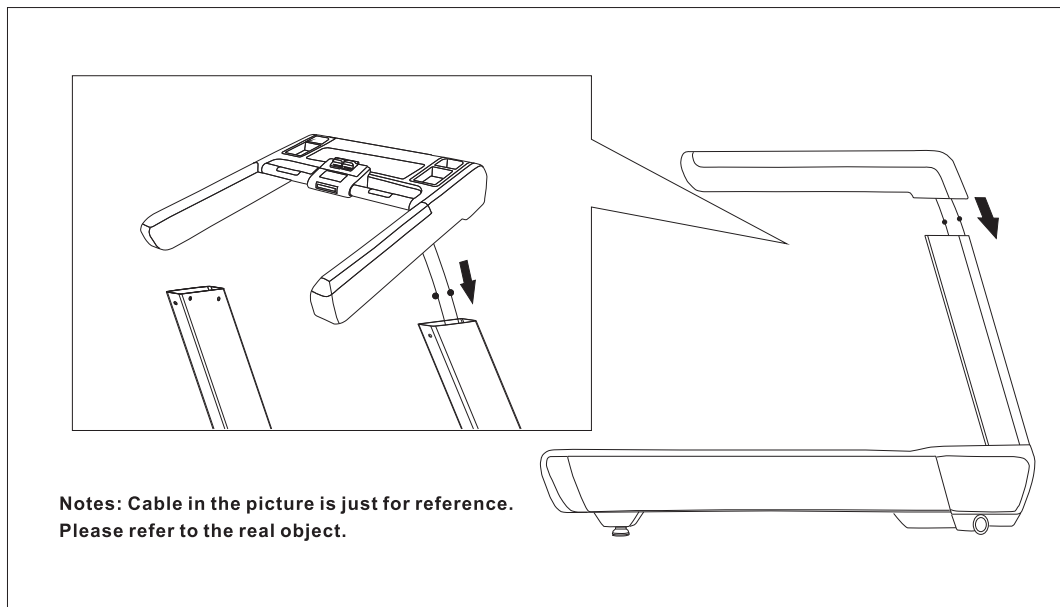

Figure 3
(6) Based on the outer side of the connecting board at the bottom of handrail, align the inner side of upright pole and then insert the console. During this process, please ensure bilateral symmetry. Then match the cable connector at the upper part of right pole and the plug inside the console. (See Figure 3)